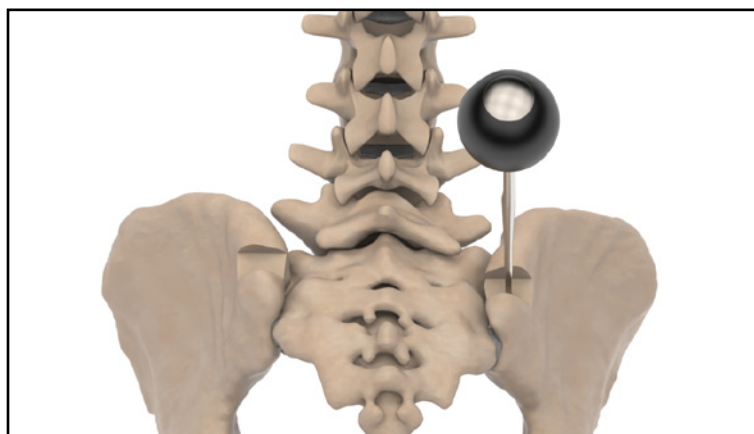

Figure 2.1
1. Use the Iliac Probe to create a pilot hole, aiming for the thick bone approximately 2.5cm above the greater sciatic notch (Figure 2.1). The probe can be used to start the Modular Shank path but does not need to extend the entire length of the chosen Modular Shank. Inspect the pilot hole for cortical wall violations using the Pedicle Sounder.